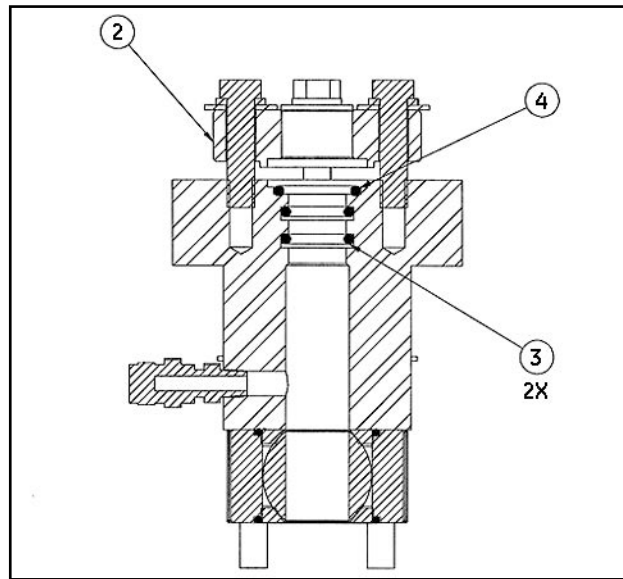

Figure 75: Holder Cross-Section - O-Ring Placement
1. Lubricate and install three new o-rings in the TII holder (see *Figure 75 below and Table 10 on page 93*).
Note: The item numbers shown in *Figure 75 below* correspond to those listed in *Table 10 on page 93*.
Note: The item numbers shown in *Figure 75 below* correspond to those listed in *Table 11 on page 101*.